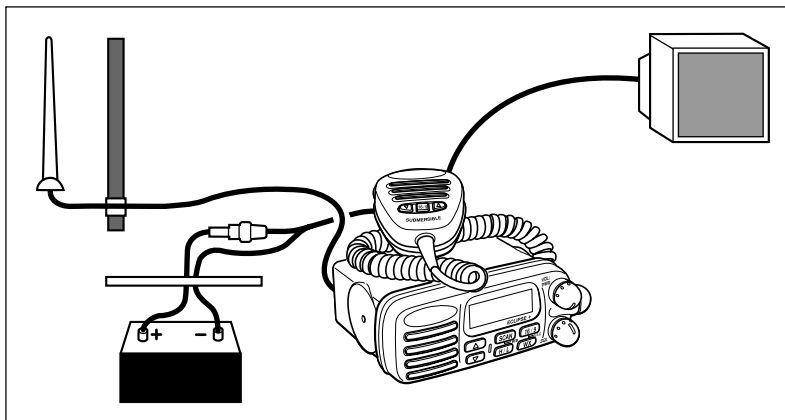

Figure 3. General Installation
- b. Connect the red power cord to a 13.8 VDC $\pm$ 20 % power source. Connect the black power cord to negative ground. See Figure 3 for this step .